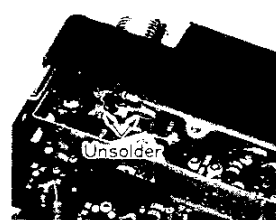

Figure 5a
- b) Unsolder from the circuit board the resistor and capacitor shown in Figure 5a.